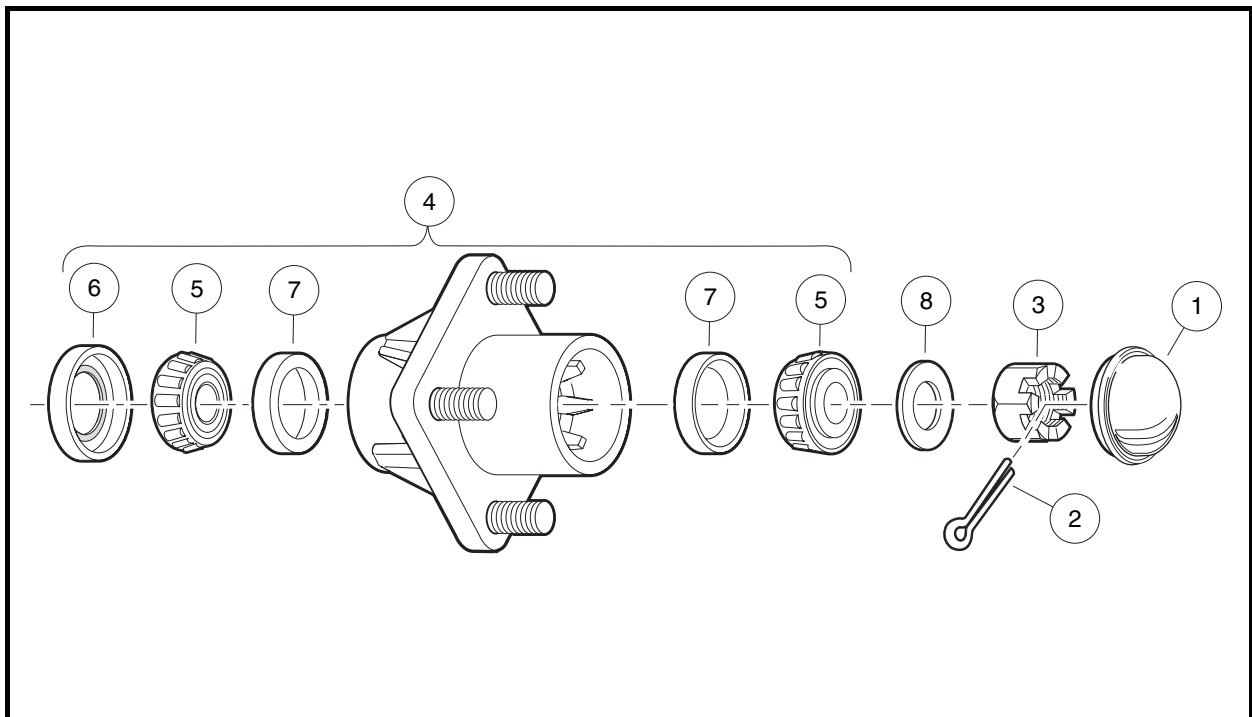

Figure 7-25 Front Wheel Bearings and Hub
2. Using your hands, attempt to rock the wheel and hub assembly back and forth on the spindle. If there is any observable movement of the wheel and hub on the spindle, remove dust cap (1) and cotter pin (2), and then tighten the spindle nut (3) until the bearing (5) fully seats in the bearing race (7) (**Figure 7-25, Page 7-23**).
4. Install a new cotter pin (2). If movement continues, replace the wheel bearings (5) as required.
- 2.1. Remove dust cover (1), cotter pin (2), spindle nut (3), and flat washer (8) (**Figure 7-25, Page 7-23**).
1. Pack the wheel bearings (5) and hub cavities, and lubricate cups (7) with wheel bearing grease or chassis lube. Make sure the grease is forced between the rollers (**Figure 7-25, Page 7-23**).
2. If bearing cups (7) were removed, press new ones in squarely against stops in the hub. **See following NOTE.**
3. Install the wheel bearings (5) into the hub and install a new seal (6), with the metal edge toward the hub. **See following NOTE.**
4. Install the hub assembly (4) and flat washer (8) on the spindle and start the spindle nut (3).
5. Tighten the spindle nut until the hub is hard to turn, then back the nut (3) off until the hub turns freely. Install a new cotter pin (2). **See following NOTE.**
7. Install the dust cap (1).